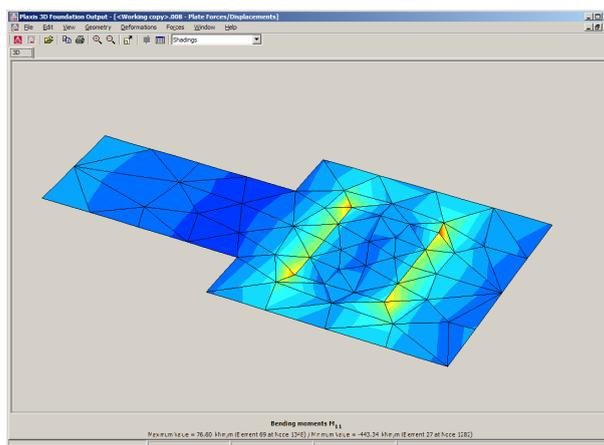

Figure 5.7 Bending moments in the concrete floor at the end of <Phase 2>
- Click <Output> to access results of this phase in the Output program (see Figure 5.7).
- Select *Shadings* option in the combo box of the *Menu bar* (Figure 5.7).